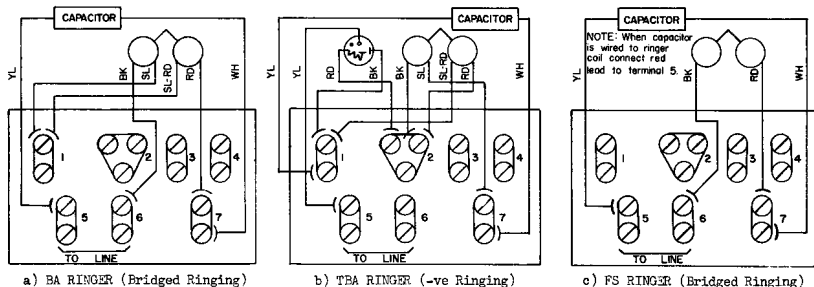

FIGURE 2 RINGER WIRING (AS SHIPPED)
- 1.03 External connections are made to a terminal block mounted on the baseplate which is provided with mounting holes. Units fitted with type 130 or 131 ringer assemblies are equipped with volume controls. See Figures 2 and 3.